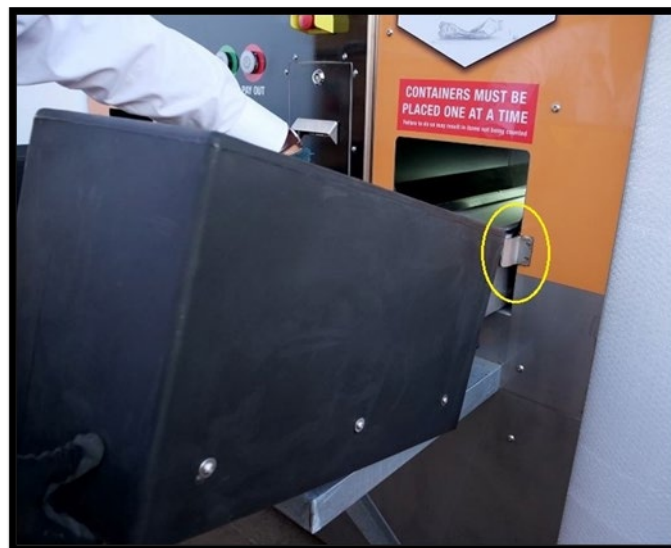

Figure 63. Conveyor cover guide
- Reinstall the conveyor cover ensuring it is fitted over the guides shown on Figure 63